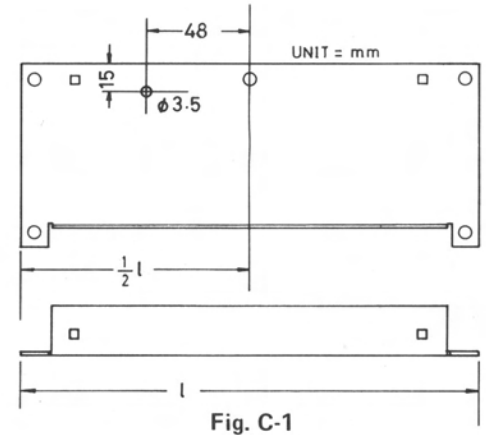

Fig. C-1
- 1) Drill a φ3.5 hole in the Driver PC Board fitting plate. See Fig. C-1.